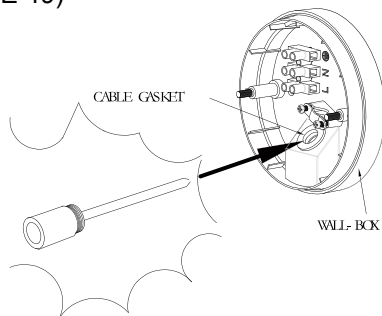

FIGURE 49
- (3) Use a screwdriver to break a small hole on the cable gasket enabling the power cord to enter the wall box. (FIGURE 49)